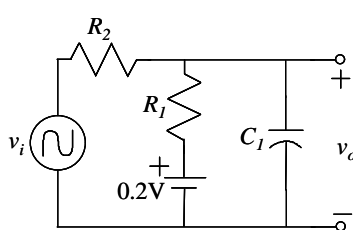

Figure 4.
- C. Repeat part B for the circuit of Figure 4. Use the DC power supply to provide 0.2 V DC.